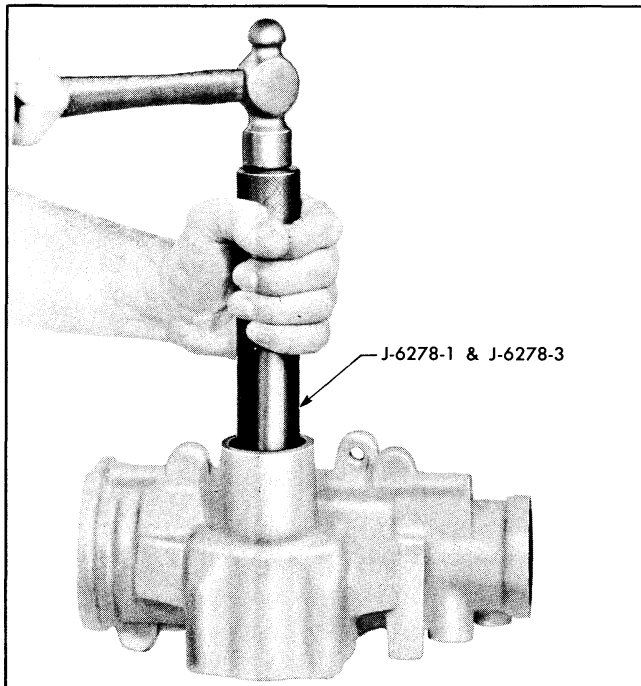

Fig. 9A-17 Removing Pitman Shaft Needle Bearing
6. If pitman shaft needle bearings are to be replaced, remove bearing by driving out of housing using tool J-6278-1 with adapter J-6278-3. See Fig. 9A-17.